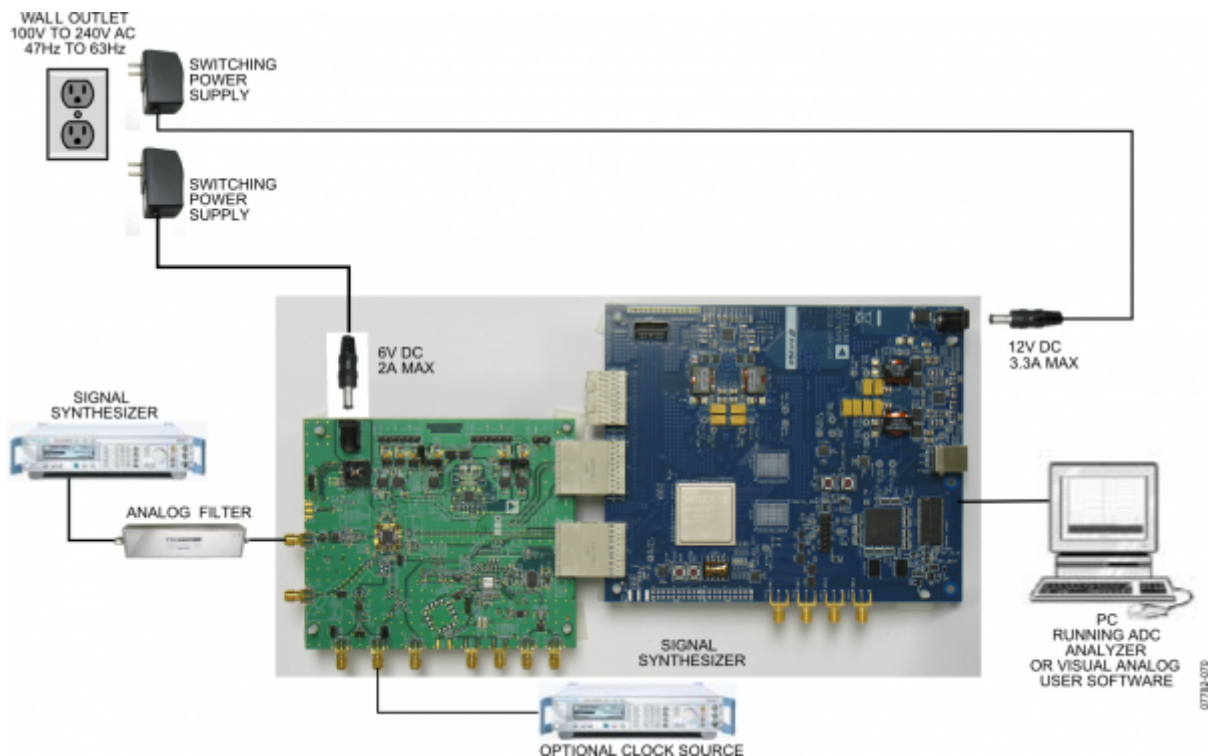

Figure 1. Evaluation Board Connection—AD9683-170EBZ, AD9683-250EBZ, or AD6677EBZ (on Left) and HSC-ADC-EVALDZ (on Right)
1. Connect the evaluation board to the data capture board, as shown in Figure 1.
The evaluation board provides the support circuitry required to operate the AD9683 and AD6677 in their various modes and configurations. Figure 1 shows the typical bench characterization setup used to evaluate AC performance. It is critical that the signal sources used for the analog input and clock have very low phase noise (<1 ps rms jitter) to realize the optimum performance of the signal chain. Proper filtering of the analog input signal to remove harmonics and lower the integrated or broadband noise at the input is necessary to achieve the specified noise performance.